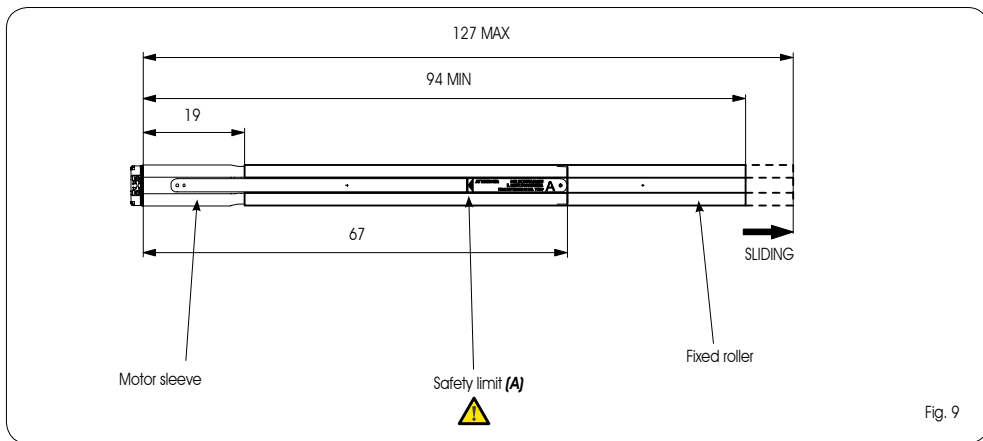

Fig. 9
To obtain the maximum size, withdraw the fixed roller from the motor sleeve up to the safety limit marked on the plate. (Fig.9 ref.A) (Roller length 127 cm)
- ⚠ WHEN YOU SLIDE THE MOTOR SLEEVE TOWARD THE OUTER END OF THE FIXED ROLLER, NEVER GO BEYOND THE SAFETY LIMIT (Fig.9 ref.A)**